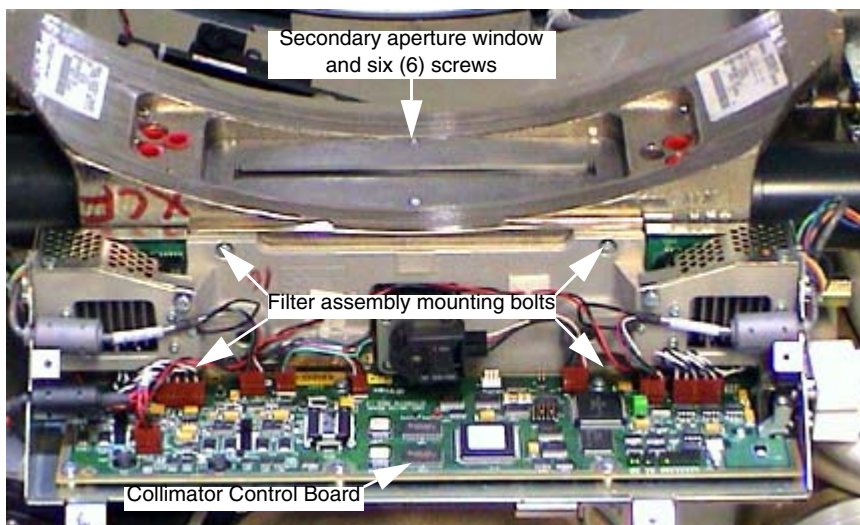

Figure 2-16 Collimator Assembly
- 7.) Remove Secondary Aperture and Output Window. See Figure 2-16.
- Take care not to lose the six (6) screws.